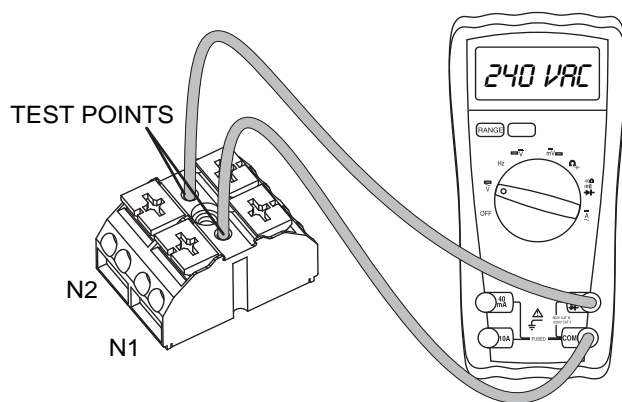

Figure 81. Terminal Block Test Points
3. See Figure 81. Connect one test lead to Wire N1 at the terminal block in the generator control panel. Connect the other test lead to Wire N2. Utility line-to-line voltage should be measured.